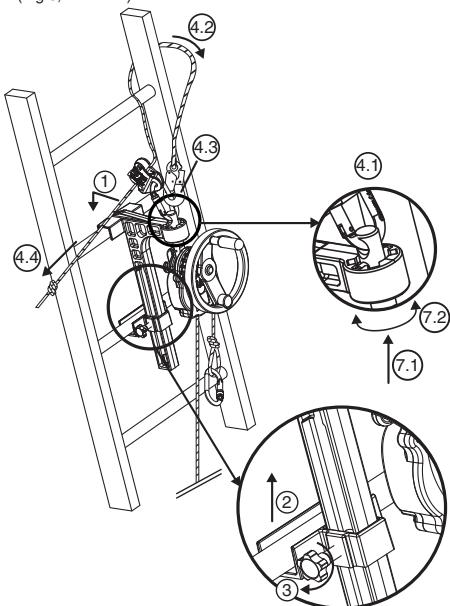

Fig.6
#### 6.3.2 DEROPE™ UP B descender (Fig.6)
1. Place the large locking bracket on the ladder bar in the position chosen to carry out the rescue operation above the person to be evacuated (Fig.6, 1).
2. Push up the locking slide at the ladder bar immediately below the bar receiving the large bracket (Fig.6, 2).
3. Tighten the locking pin securing the slide using the clamping knob located on the side of the bracket (Fig.6, 3).
- Secure the connector of the adjustment device LCM 05 in the hole at the top of the fastening pin (Fig.6, 4.1).
- Run the belay lanyard around the ladder bar located above the bracket, going around one of the ladder uprights (Fig.6, 4.2).
- Connect the belay lanyard connector in the connector of the adjustment device LCM 05 (Fig.6, 4.3).
(Fig.6, 4.4).
7. Align the DEROPE™ descender as may be required, modifying the position of the fastening pin in the indexing device (Fig.6, 7.1 – 7.2).